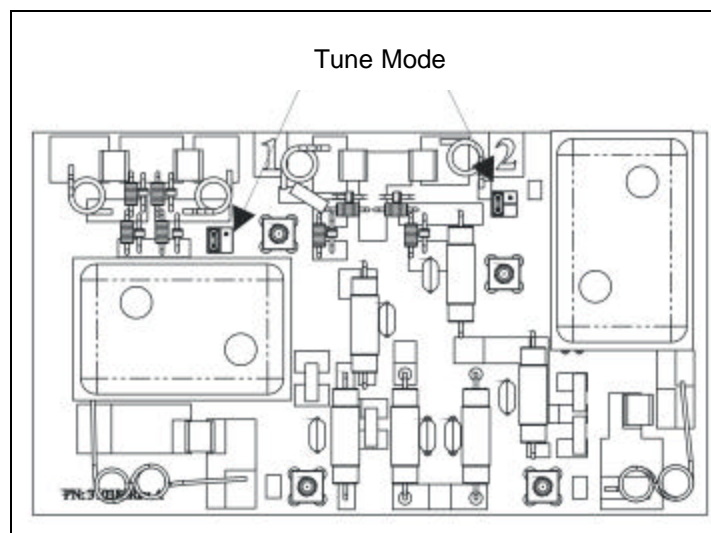

Figure 7: Jumper position for tuning mode.
2. To test Channel 1, unplug only jumper #1 near Preamp 1, and then plug jumper #1 into the Tune Mode position (see *Figure 7*).
2. Move the jumper of channel 5 to Tune Mode position (refer to *Figure 7*).
- Move the jumper of TP1 of channel 3 to Tune Mode position and connect the test cable (BNC connector end) to the impedance meter (refer to *Figure 7*).